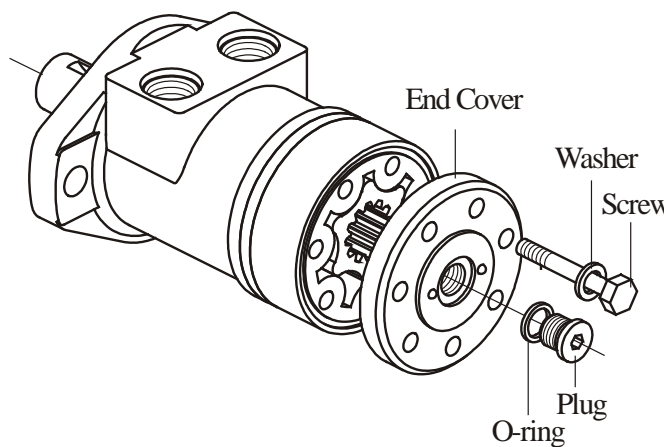

Fig.1
2. Unscrew screws using S13 torque wrench. Remove washers (see Figure 1).